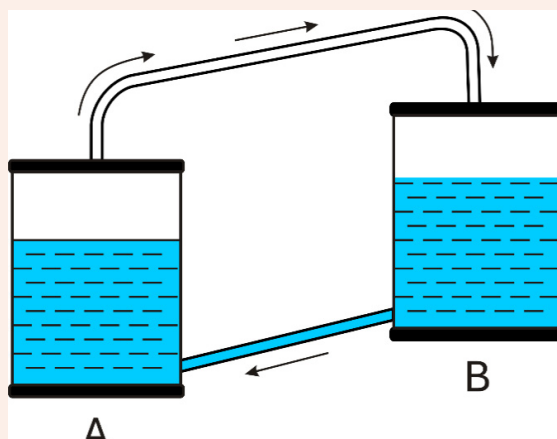

Figure 3.7: An experiment to illustrate thermosiphon water cooling
1. Connect one piece of tubing to the tops of the two containers as shown in **Figure 3.7**.